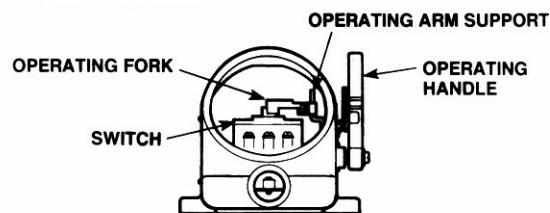

Figure 2
A. To remove circuit breaker and mounting plate from enclosure; loosen the #10-32 x 7/8" screw on the operating fork. Slide the fork upward on the operating arm support and remove. Retain operating fork assembly for later use. (See figure 2).
- A. Loosen the #10-32 x 7/8" screw on the operating fork and slide the fork upward on the operating arm support and tighten screw. DO NOT remove the fork arm (See Figure 2).
B. Remove mounting plate from enclosure by loosening four (4) #10-32 x 3/8" screws that secure the mounting plate to the enclosure. Slide mounting plate sideways and lift out.